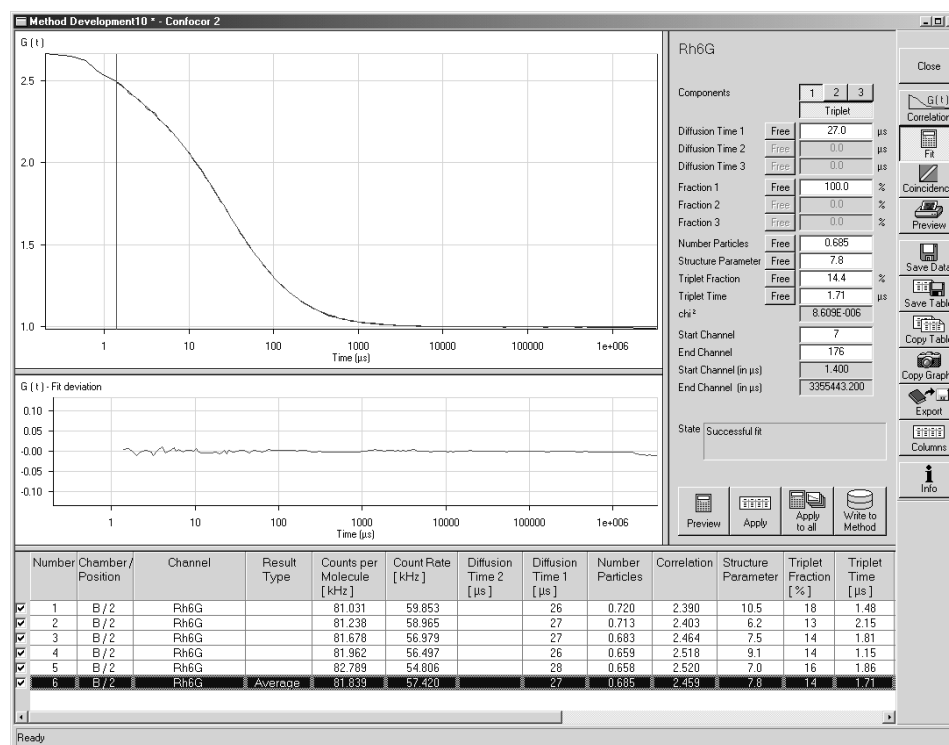

Fig. 5-376 Display fit
- A **Fit** menu subordinate will appear (Fig. 5-376).